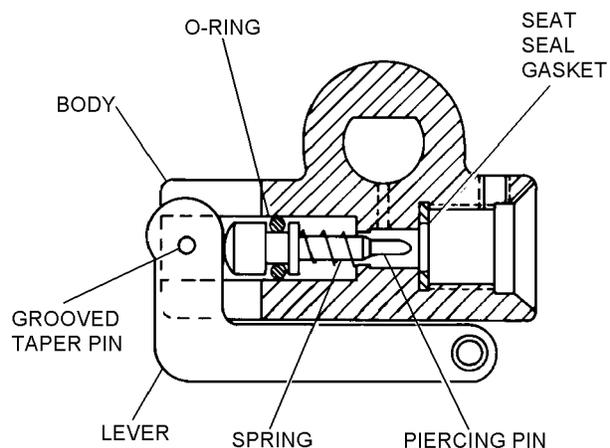

Figure 17-8. CO₂ Inflation Assembly
3. Remove grooved taper pin (retaining lever) from inflation valve, using awl and mallet. See figure 17-8.